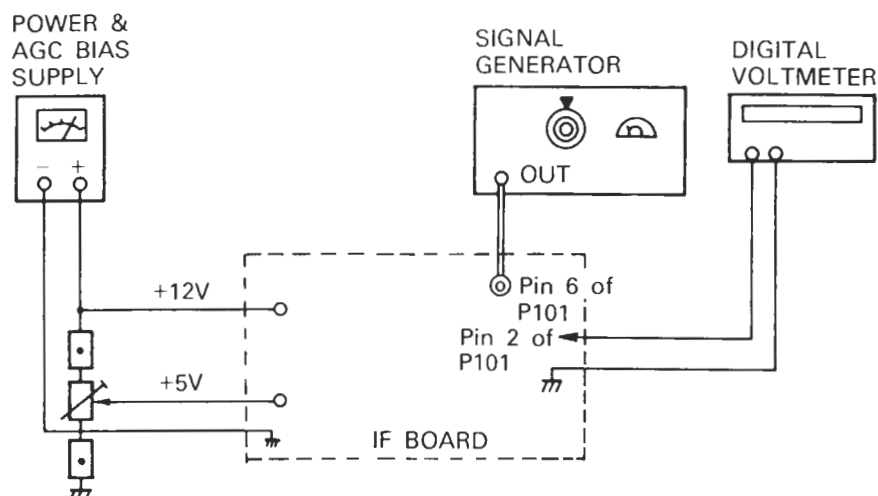

Figure 9. AFC Alignment
- GENERAL ..... Refer to figure 9 for test equipment connection.
- DVM ..... Connect to pin 2 of P101 (figure 9) and ground.